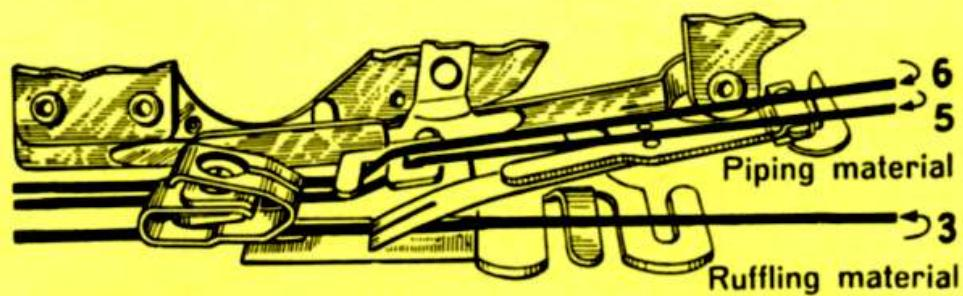

Fig. 22
- 1) Insert material to be ruffled between the two blue blades (Line 3, Fig. 22).
- 2) Place piping material in ruffler (Line 5, Fig. 22), with folded edge of piping to right.
- 3) Fold edge of material to which piping and ruffling are to be attached and insert it in ruffler (Line 6, Fig. 22).